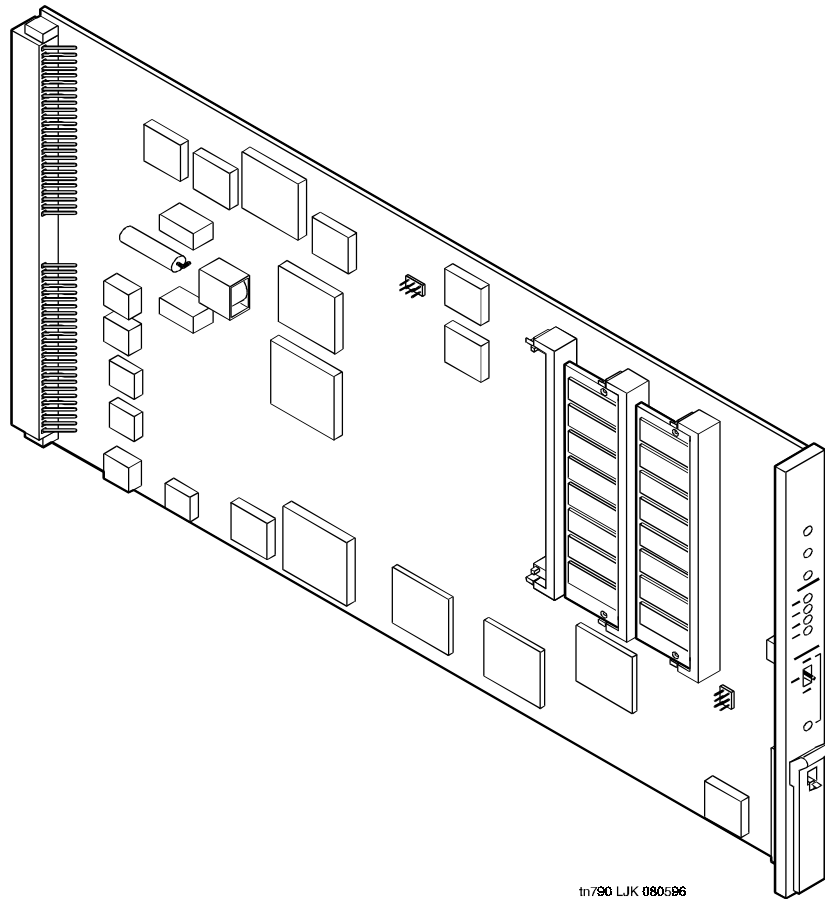

Figure 12-81. TN790 Processor Circuit Pack
See Figure 12-81 to locate the SIMM sockets on the TN790 processor circuit pack.
2. Place the TN790 Processor circuit pack on an ESD-approved work station, such as the anti-static circuit pack packaging or anti-static mat, with the SIMM sockets facing up and to the left, as shown in Figure 12-81.